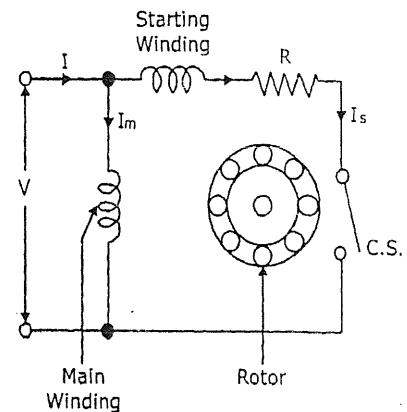

FIG. 4.21 : RESISTANCE START INDUCTION MOTOR
- As shown in Fig. 4.21, the two windings, namely; main winding and starting winding are connected in parallel across the supply voltage V .